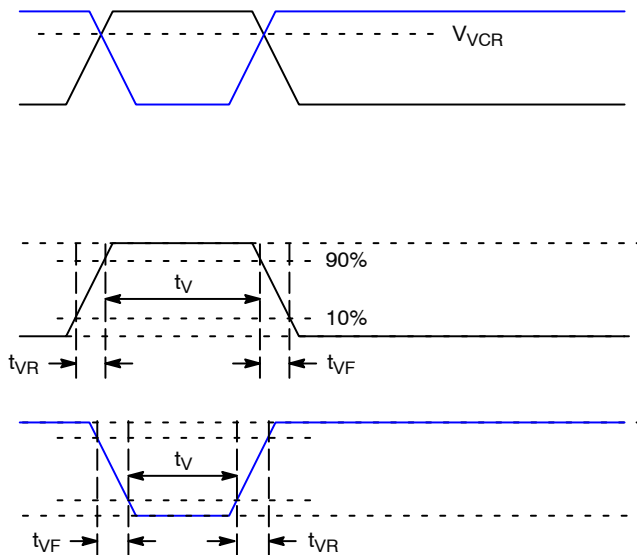

Figure 26. VCCD Clock Edge Alignment
1. Refer to Figure 26: VCCD Clock Edge Alignment.